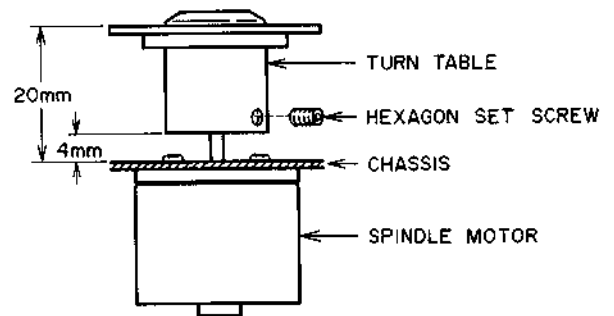

Fig. 6-2
- 6) Put the new turntable on to the motor shaft and adjust the turntable so that the height of the turntable from chassis becomes 20 mm or its clearance from chassis becomes 4 mm as shown in Fig. 6-2.